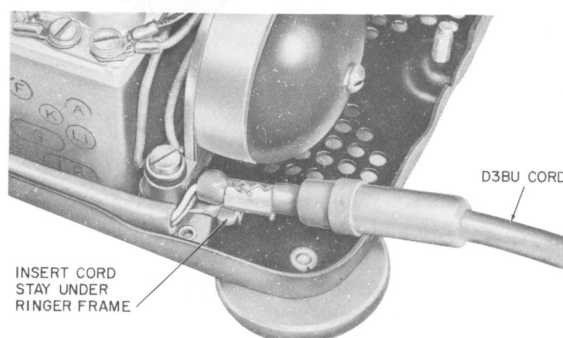

Fig. 7—Installing Extra Length Cord
- (1) Remove ringer mounting screw (Fig. 7).
- (2) Insert cord stay under ringer frame.
- (3) Reinsert mounting screw.
- (4) Position cord grommet so that cord is protected where it enters set.